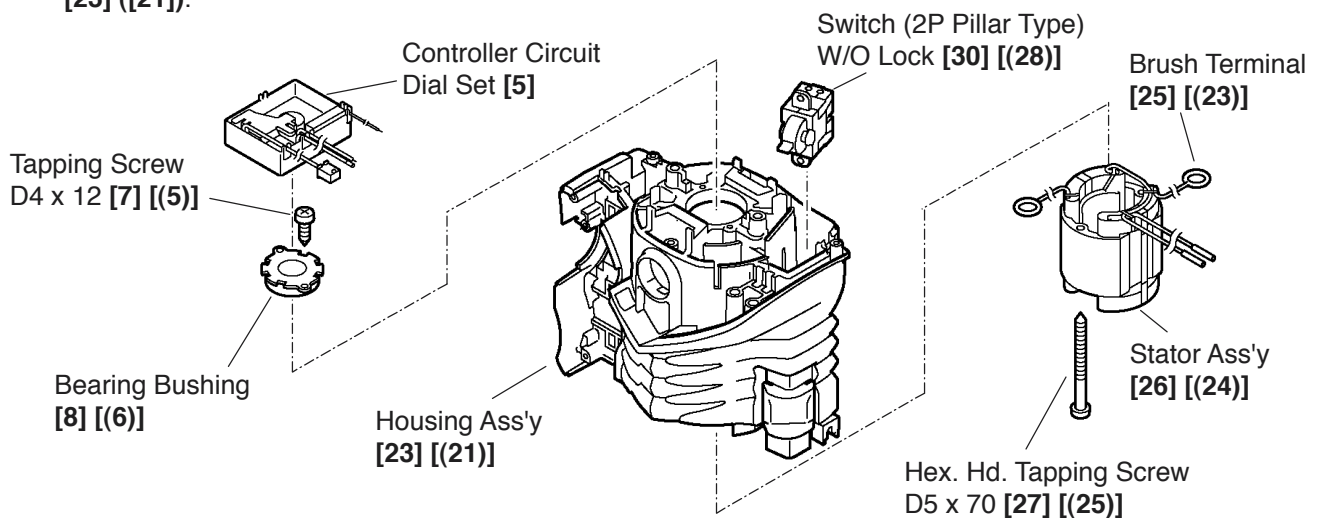

Fig. 14
(6) Remove the Stator Ass'y [26] ([24]) (Fig. 14)